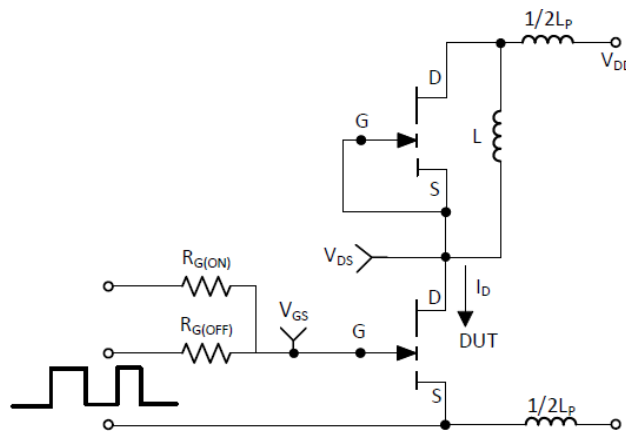

Figure 18: Switching Loss Test Circuit
(7) See Figure 18 for switching test circuit